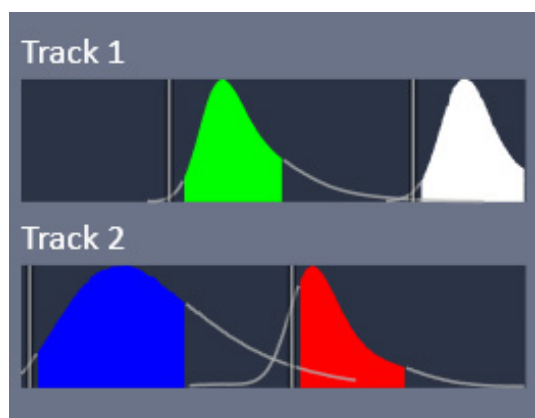

Fig. 75 Smart Setup tracks
**Smart Setup** displays the track configuration along with normalized emission spectra of the chosen dyes (as specified in the experiment configuration). Filled spaces of the spectral curves illustrate the portion of the emission detectable in a given proposal (Fig. 75). The illustration also displays the order of track acquisitions upon sequential multi-color recording. Track acquisitions using long wavelength laser lines are performed first.